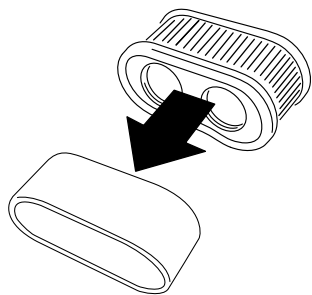

Figure 30
- Remove the foam element from the paper element (Figure 30).